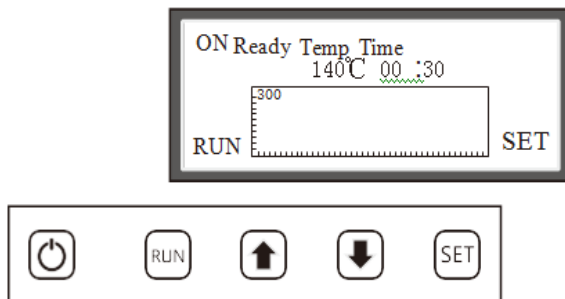
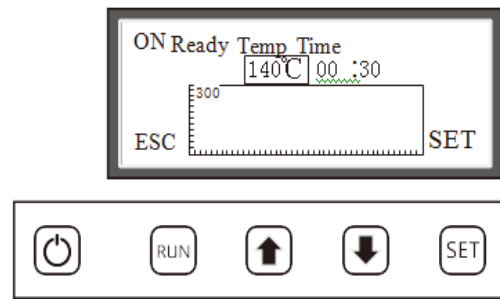

Fig. 5
Fig. 6
①. After pressing “POWER SUPPLY”, “PRODUCTION” is in highlighted state, which means being selected. Press “RUN” as shown in Fig. 5 and press “SET” button to select “PREHEAT”, “TEMPERATURE” and “TIME” modes. When the heating mode is “PREHEAT”, press “SET” button to switch “TEMPERATURE” column to the highlighted state, as shown in Fig. 6. Press “PAGE UP” button and “PAGE DOWN” button to conduct preheating temperature preheating setting. The minimum preheating temperature shall be set as 70°C. Press “SET” button to switch “TIME” to the highlighted state and conduct time setting.